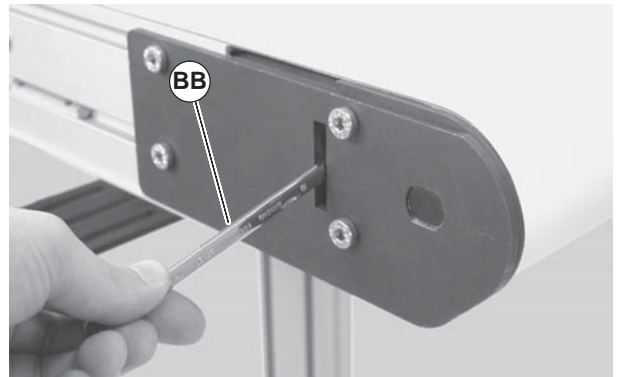
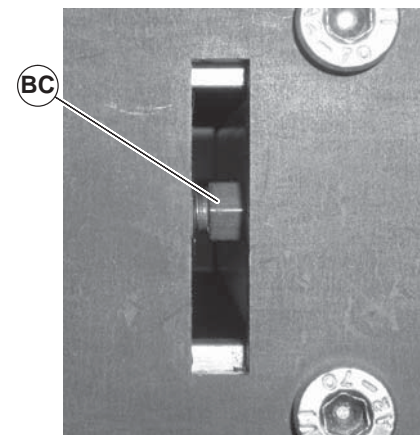

Figure 38
Figure 39
3. With the conveyor running, use wrench (Figure 38, item BB) to rotate the tracking screw (Figure 39, item BC) in small increments until the belt tracks in the center of the conveyor.